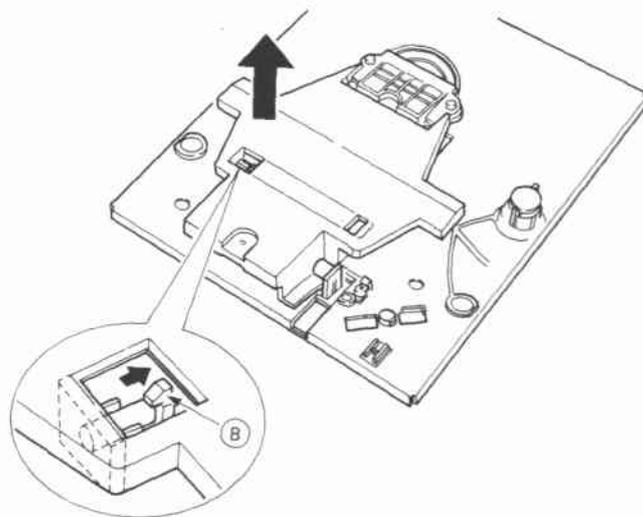

Fig. 14
Pull off the Frapper by pressing the hook (B) in Fig. 14.